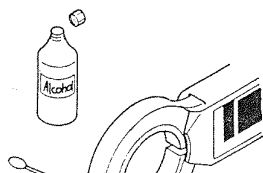

Fig. 10
- When such foreign matters adhere, be sure to wipe off by using a soft cloth or a cotton swab immersed in alcohol. (See Fig. 10).